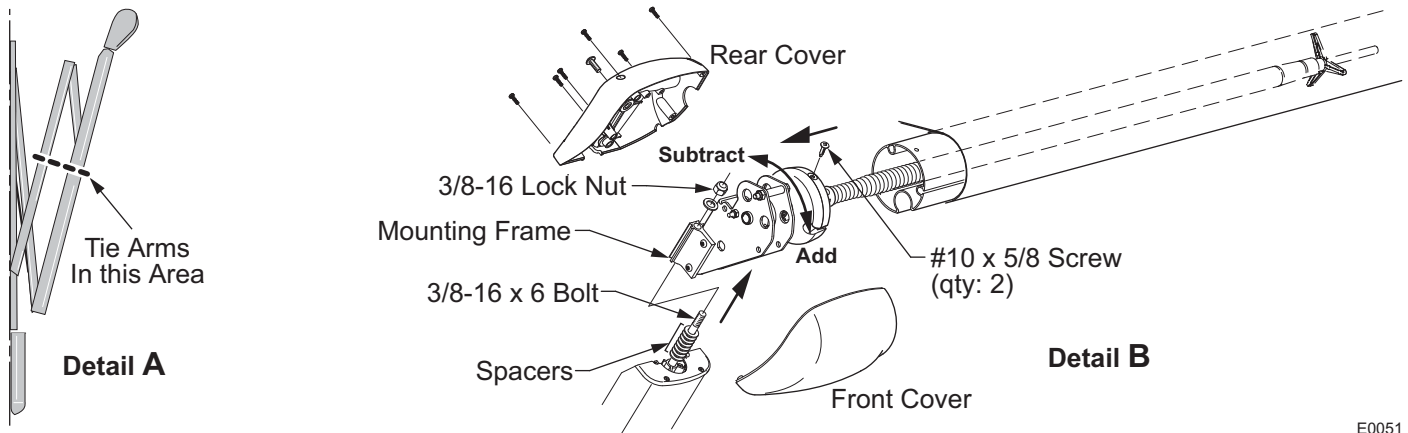

Figure 8. Idler/Spring Replacement.
19. (Refer to Figure 8 on page 11) Place the idler assembly in position over the mounting bolt. Ensure that the spacer-washers are all accounted for.